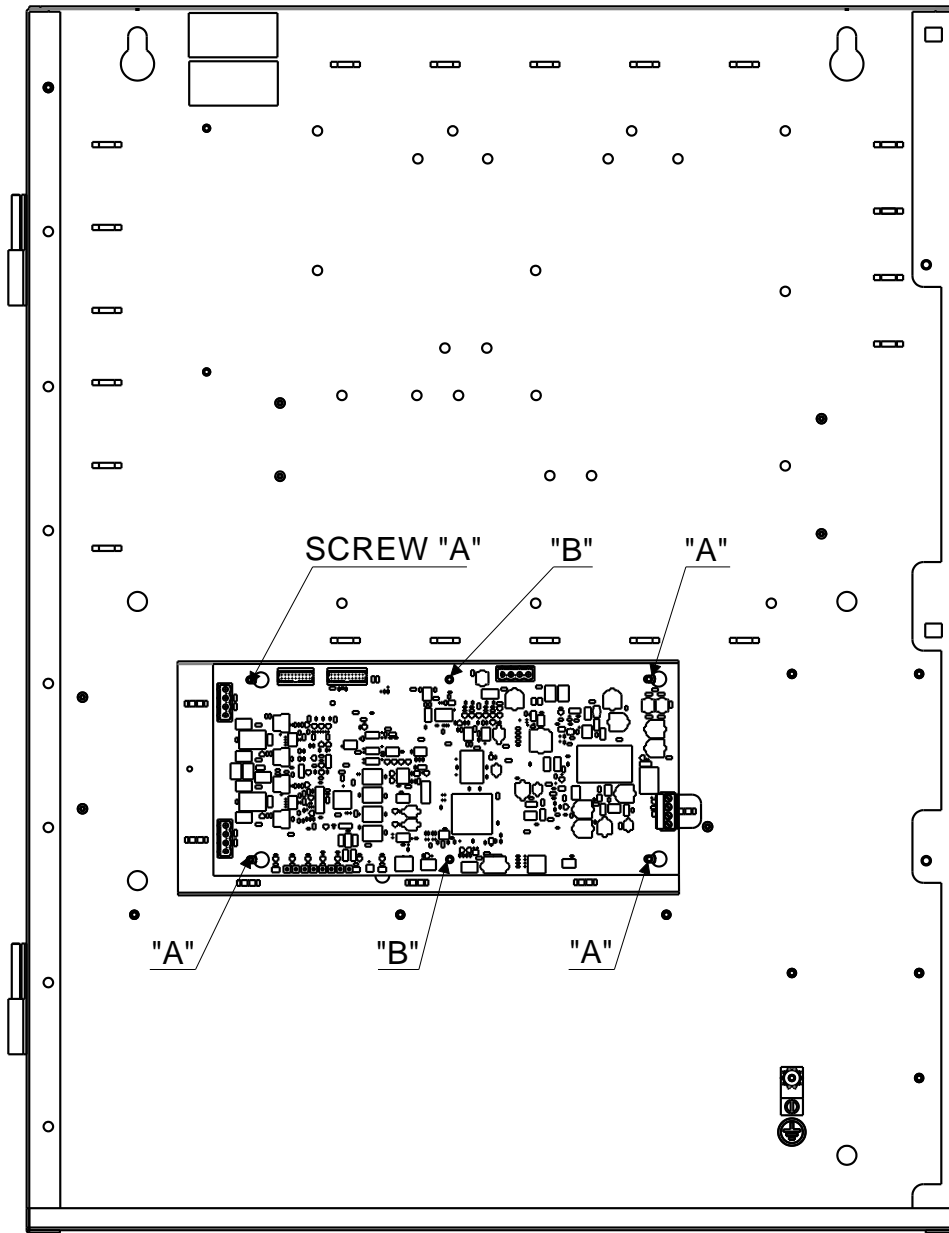

Figure 3
1. Mount the (4) screws provided with the FCL2004-U1 on the standoffs marked "A" as shown in Figure 3.
3. Mount the other (2) screws provided at the location marked "B".
4. Finish mounting of the FCL2004-U1 by tightening all (6) screws.